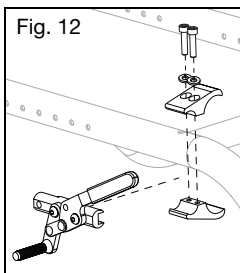

Fig. 12
1. Use a 5mm Allen wrench to turn one of the screws in the clamp until it runs easily (less than one turn). See Fig. 12.
3. Adjust the clamp along the frame so the wheel lock properly compresses the tire and prevents any wheel movement. See Fig. 12.